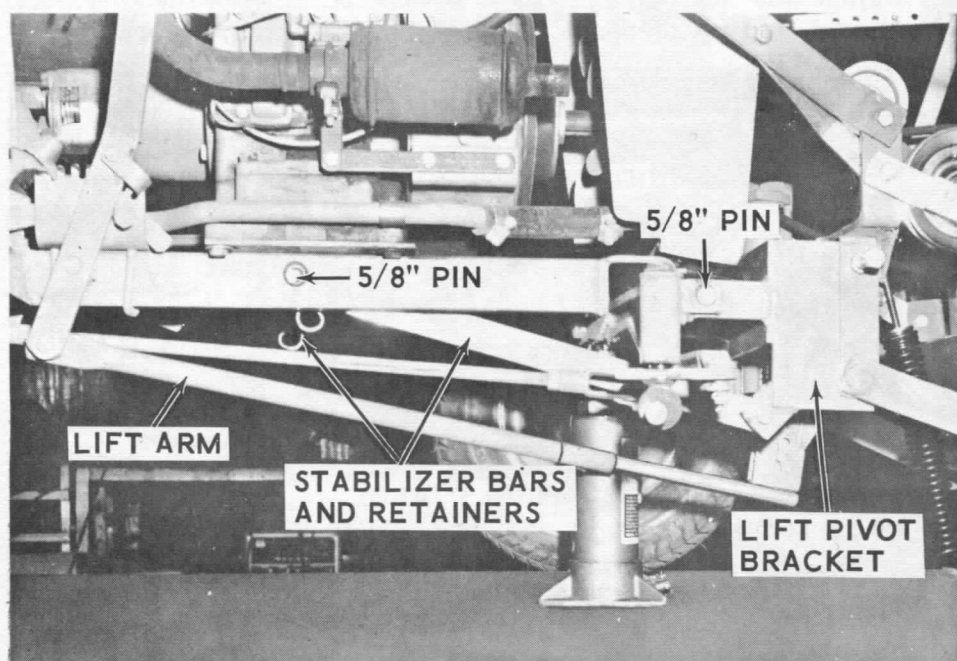

Figure 21
1. Mount lift pivot bracket and braces to front mounting plate on tractor and remove lift assembly mounting screws from lift pivot bracket (See Figure 21.)
2. Align rear of blower lift assembly with lift pivot bracket. Engage pivot bar in notches near bottom of lift pivot bracket. Lift arm must slide between front wheels and under tractor. (See Figure 21).
3. Pivot lift assembly back until holes in lift assembly line up with holes in lift pivot bracket. Insert mounting screw through holes and tighten securely into lift pivot bracket (See Figure 21.)
4. Connect lift arm to lift lever. (See Figure 21.)
1. Preassemble the two (2) stabilizer bars, Figure 21, to the lift pivot bracket using two pivot bushings, 3/8" x 1-1/2" cap screws, lockwashers, and hex nuts. Position the pivot bushings between the lugs on the pivot bracket before inserting the cap screws.
3. Connect the stabilizer bars, Figure 21, to the holes in the tractor frame under the engine pad using two (2) 5/8" pins and retainers.
16. Connect the lift arm, Figure 21, to the tractor lift lever using a 3/8" x 1-1/2" cap screw, pivot bushing, lockwasher, and nut. Connect the clevis end of the lift arm to the lower lug on the blower lift bracket with a 3/8" pin and retainer.